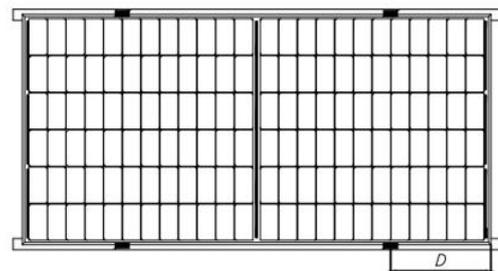
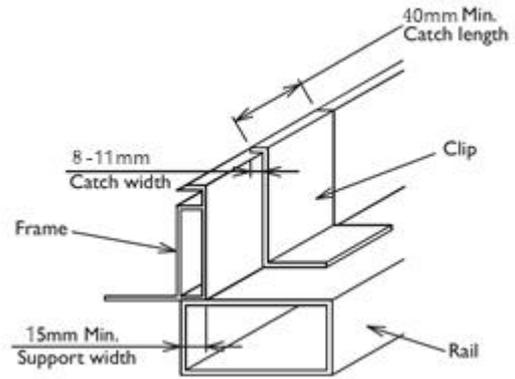

Fig. 3 Rails overlapping the long-side frame
Fig. 7 Mounting requirements for rails overlapping the long-side frame
When mounting bifacial PV modules, each module must be secured with a minimum of 4 clamps, as shown in Fig. 3 and 4.
- ⑦ For the installation method shown in Fig. 3, the module needs to be fixed with professional clamps (as shown in Fig. 7), and the overlap between the C side of the module and the rail should be ≥ 15 mm.